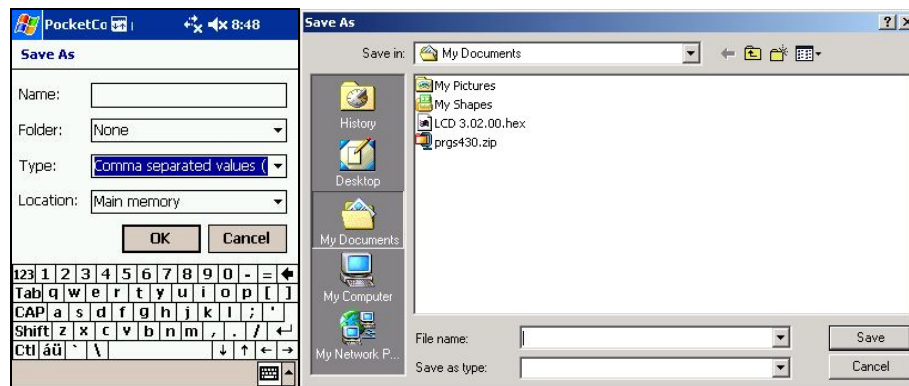

Figure 13. Save As screens.
- Tap **Export**. The Save As screen, shown in Figure 13, is displayed.